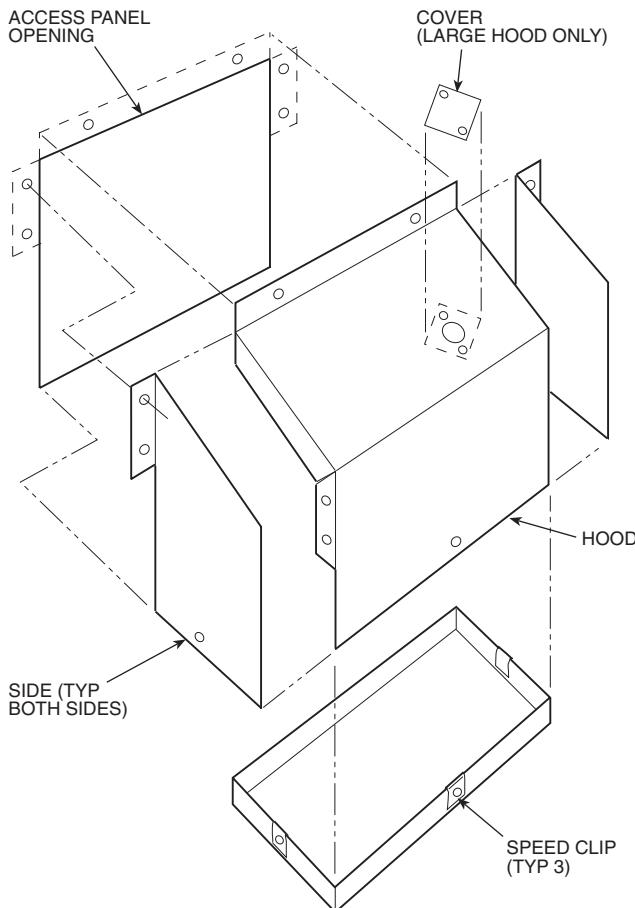
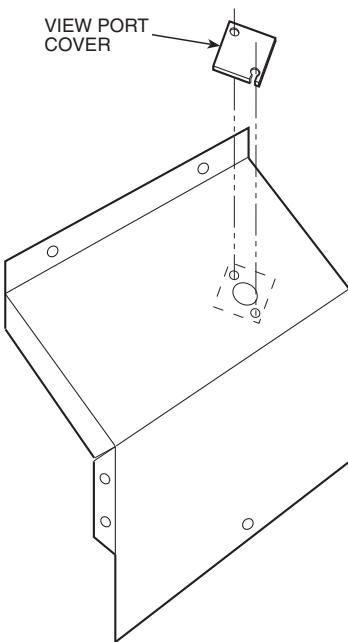

Fig. 65 — Inlet Hood Assembly
Fig. 66 — Inlet Hood View Port Cover Installation
4. Inlet hoods are shipped unassembled and must be assembled on the access panel (see Fig. 65). Flanges of the hood top and sides should be placed on the inside of the access panel openings. Install hood top and sides with screws provided. Attach speed clips to screen and insert screen into bottom opening of hood. Secure with 3 screws. On large inlet hoods, attach viewport cover over opening in hood (see Fig. 66). Secure with two screws.